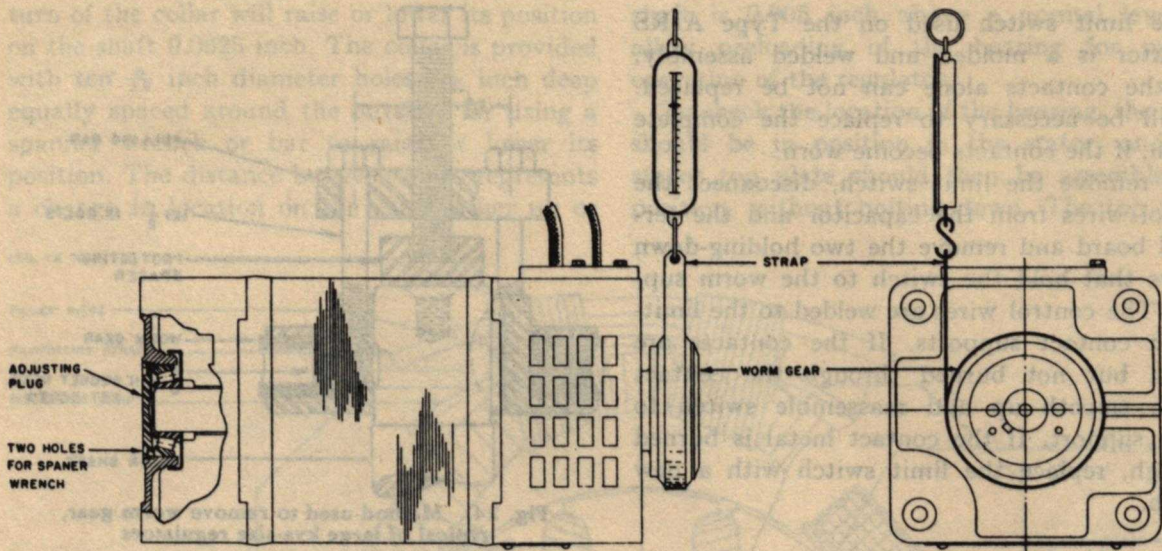

Fig. 22. Adjustment of regulator rotor bearings, typical of small kva-size regulators
**Adjustment of Rotor Bearing—See Fig. 22**